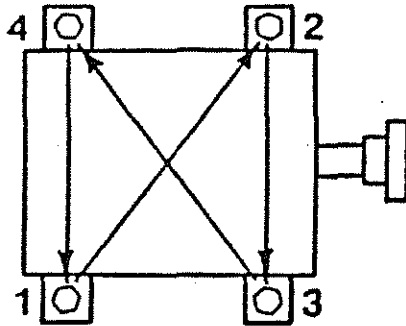

Figure 3-6
9. Whenever shims are changed and the motor is moved, the mounting bolts should be tightened evenly in the sequence in Figure 3-6 to the same torque given in Table 12 in Section 6.3. This minimizes misalignment caused by the driver shifting when tightening the bolts and by the motor pads not being level.
30. Finally, tighten the driver mounting bolts in sequence as in Figure 3-6; then, tighten bolts to the torque in Table 12 in Section 6.
- (a) Tighten all mounting bolts evenly in the sequence in Figure 3-6 to the torque in Table 12 in Section 6.
- (j) Finally, tighten the driver mounting bolts evenly in the sequence in Figure 3-6 to the torque in Table 12 in Section 6.